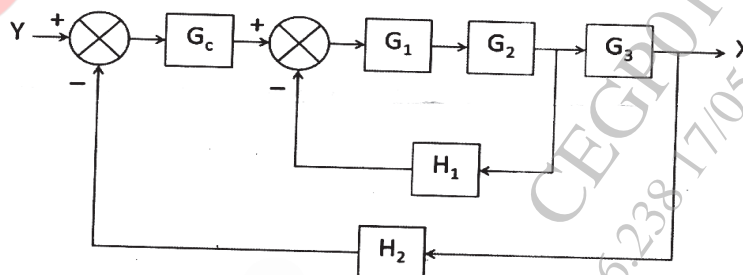

Figure 1
- Q4) a) Reduce the block diagram in Figure 1 and determine the transfer function: X/Y. [8]